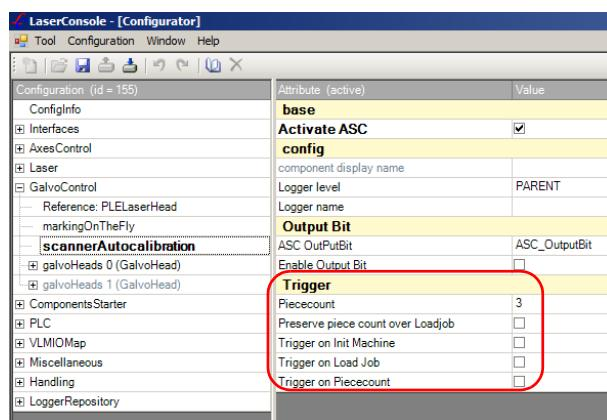

Figure 7.22 Activating the trigger
- Specify when the calibration should be checked by the software (see figure 7.22).